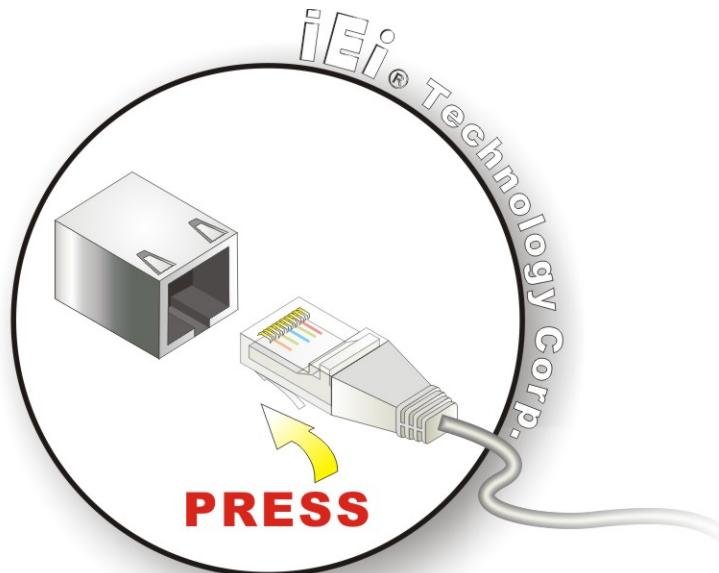

Figure 5-31: LAN Connection
Step 2: Align the connectors. Align the RJ-45 connector on the LAN cable with one of the RJ-45 connectors on the NOVA-9452. See **Figure 5-31**.